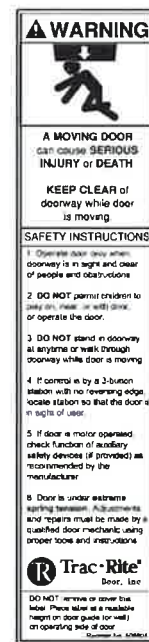

Figure 10.
9.3 Attach guide warning label (shown in Figure 10) to wall next to the guide at eye level. If mounting to an unfinished surface (bare masonry or wood) attach label to a nonporous surface and use mechanical fasteners to mount on wall.